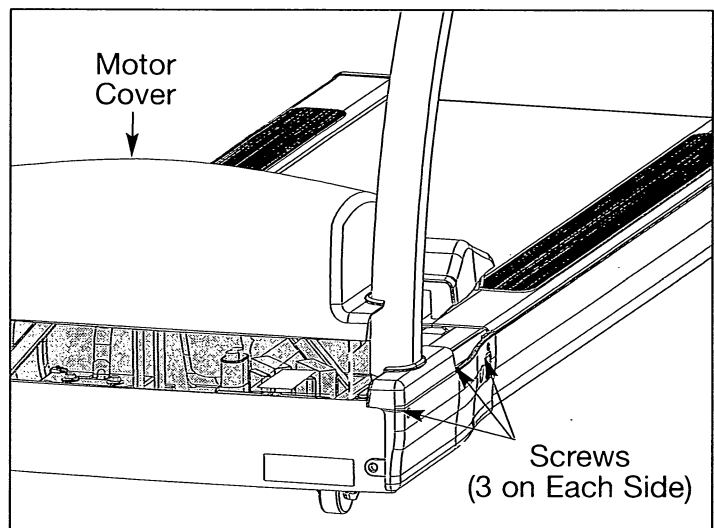

Figure 2
- Enter *Test Mode* by holding down any key on the display while turning the power switch to the on (I) position.
- Turn the main power switch on the left side to the off (O) position.
- Using a Phillips head screwdriver, loosen three screws on each motor cover side (left and right). See Figure 2.
- A. Plug the treadmill back in and turn it to the on (I) position.
- A. Lower the motor cover center into position. See Figure 2.
- E. Press **Stop** and turn the power switch to the off (O) position.
- A. Using a Phillips head screwdriver, loosen three screws on each motor cover side (left and right). See Figure 2.
- B. Lift the motor cover center up and off the treadmill. The screws will stay in place. See Figure 2.
- A. Enter *Test Mode* by pressing and holding down any key on the display while turning the power switch to the on (I) position. When the key is released "PRO" and the software revision "rx.x" are shown on the display.
- A. Turn the main power switch on the left side to the off (O) position.
- A. Using a Phillips head screwdriver, loosen the three screws on each motor cover side (left and right). See Figure 2.
- B. Lift the motor cover center up and off the treadmill. **NOTE:** The screws will stay in place. See Figure 2.